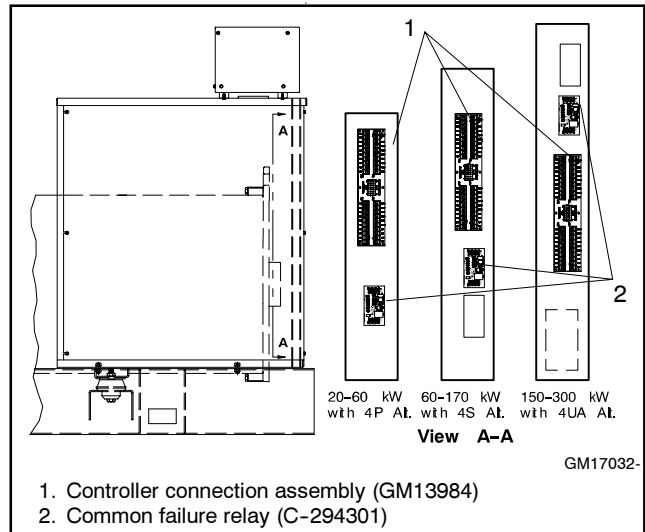

Figure 2 Controller Connection Assembly Mounting Locations in Junction Box (20-300 kW)
assembly and the junction box bracket. See Figure 2 for the mounting location.
3.1.1 Mount the common failure relay (C-294301) to the junction box using four screws (X-51-3), spacers (X-712-9), and nuts (X-6210-4). Place the spacers between the common failure relay and junction box bracket. See Figure 2 for the mounting location.